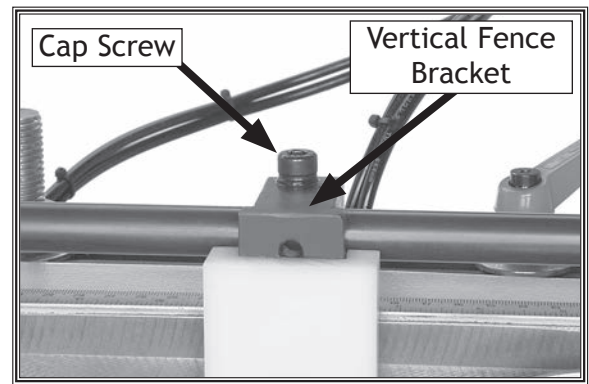

Figure 26. Vertical fence adjustment cap screw.
4. Loosen the cap screw on the vertical fence bracket shown in **Figure 26**.